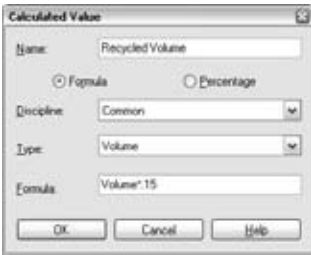

Figure 11.12
9. The Calculated Value dialog box opens (Figure 11.12). In this dialog box you can create new columns in your schedule based on relationships to other fields in the table. Name your new value **Recycled Volume**. For Type, choose Volume from the drop-down list, and in the Formula box, type **Volume\*.15**.